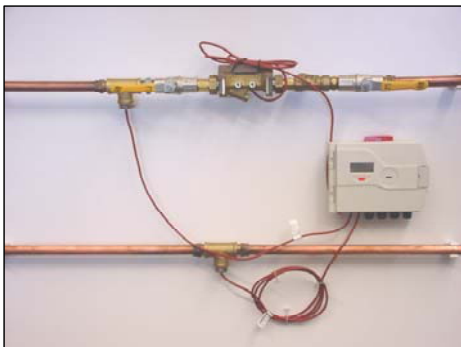

Fig. 2: Example with integrator mounted separately
**If liquid temperatures exceed  $90^\circ\text{C}$  the integrator has to be mounted separately, in order to avoid damages of electronic parts (see also fig. 2):**